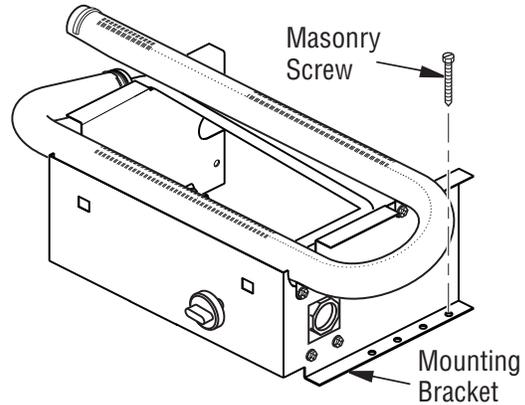

Figure 12 - Attaching Base to Fireplace Floor
7. Mark screw locations through one hole on each side of the mounting bracket (see **Figure 12**, **Page 13**). If installing in a brick-bottom fireplace, mark screw locations in mortar joint of bricks.